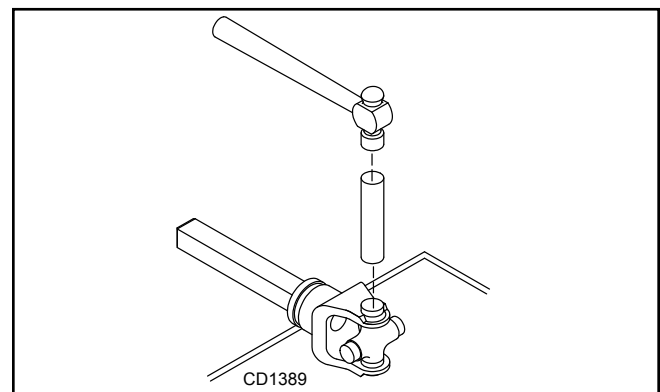

Figure 26.
3. Seat cups by placing a drift or socket (slightly smaller than the cup) on cup and rap with a hammer. See Figure 26. Install snap ring and repeat on opposite cup.